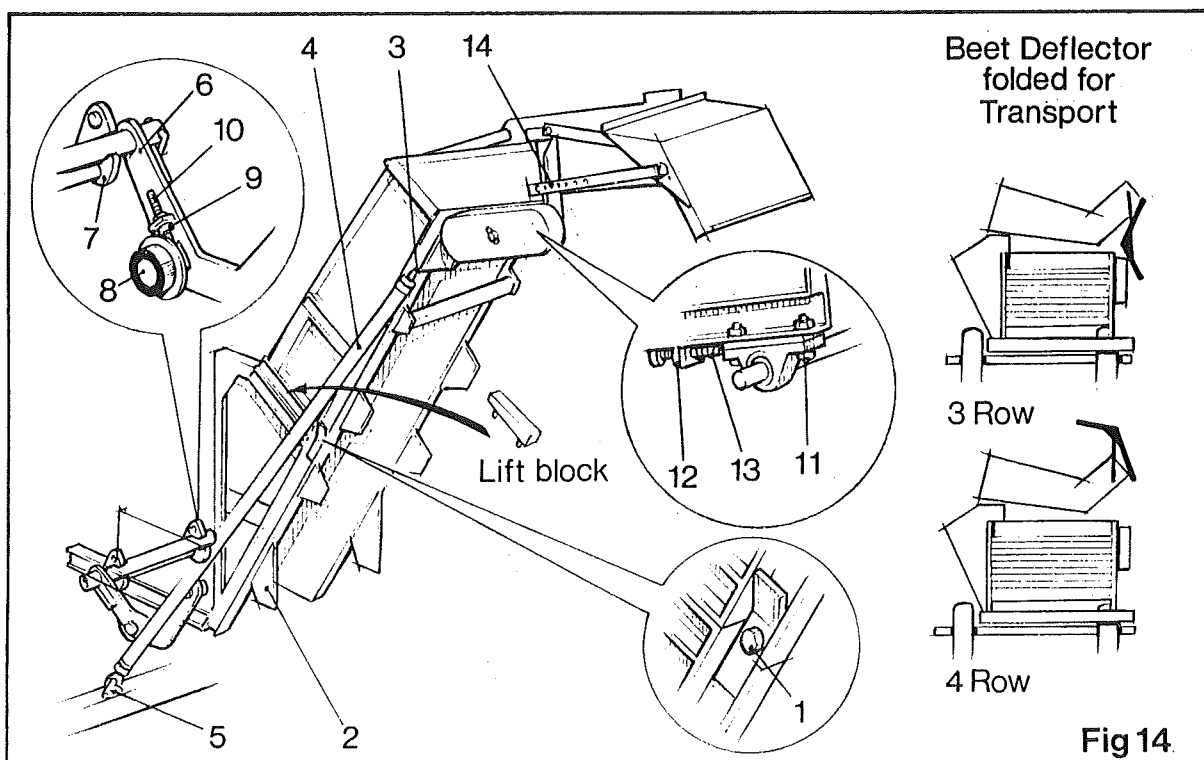

Fig 14.
1. Remove the two securing bolts (item 1 fig 14) from the discharge elevator bottom frame (item 2 fig 14).
3. Once the elevator is in the working position secure it by replacing the securing bolts (item 1 fig 14).
4. Position the elevator stay (item 4 fig 14) by locating the hook end of stay in the lug (item 3 fig 14) on the elevator and locate the bottom end of the stay over the pin (item 5 fig 14) on the main frame.
5. Swing the bottom roller support (item 6 fig 14) into the working position and secure with the latch (item 7 fig 14).
1. Release the bottom roller support (item 6 fig 14) by pulling back the latch (item 7 fig 14).
2. Remove the elevator stay (item 4 fig 14).
3. Remove the two securing bolts item 1 fig 14).
On the top of the discharge elevator a beet deflector is fitted to divert the beet into the trailer. The deflector is fully adjustable to obtain different angles of deflection. The holes in the side stay (item 14 fig 14) provides the adjustment. The deflector has a transport position, so reducing the overall height of the harvester see fig 14.
A lift block is supplied with a machine, that is designed to lift beet grown at 16 inch spacing. This block is placed between the bottom and top sections of the discharge elevator and is positioned there to give a greater discharge height when opening up a field (see fig 14).
The discharge elevator web can be adjusted for tension. To tension the web loosen the bottom roller (item 8 fig 14) (a spanner can be located on the flats of the roller
spindle), loosen the lock nut (item 9 fig 14) and turn the adjusting nut (item 10 fig 14) clockwise or anticlockwise to obtain the required tension. After the adjustment has been made tighten the lock nut (item 9 fig 14) and resecure the bottom roller. Ensure that both rollers are adjusted equally. A second web adjuster is situated at the top of the elevator. To adjust slacken the four bearing retaining bolts (item 11 fig 14) and the lock nut (item 12 fig 14) and turn the adjusting screw (item 13 fig 14) to give the correct tension. Ensure that both rollers are adjusted equally.